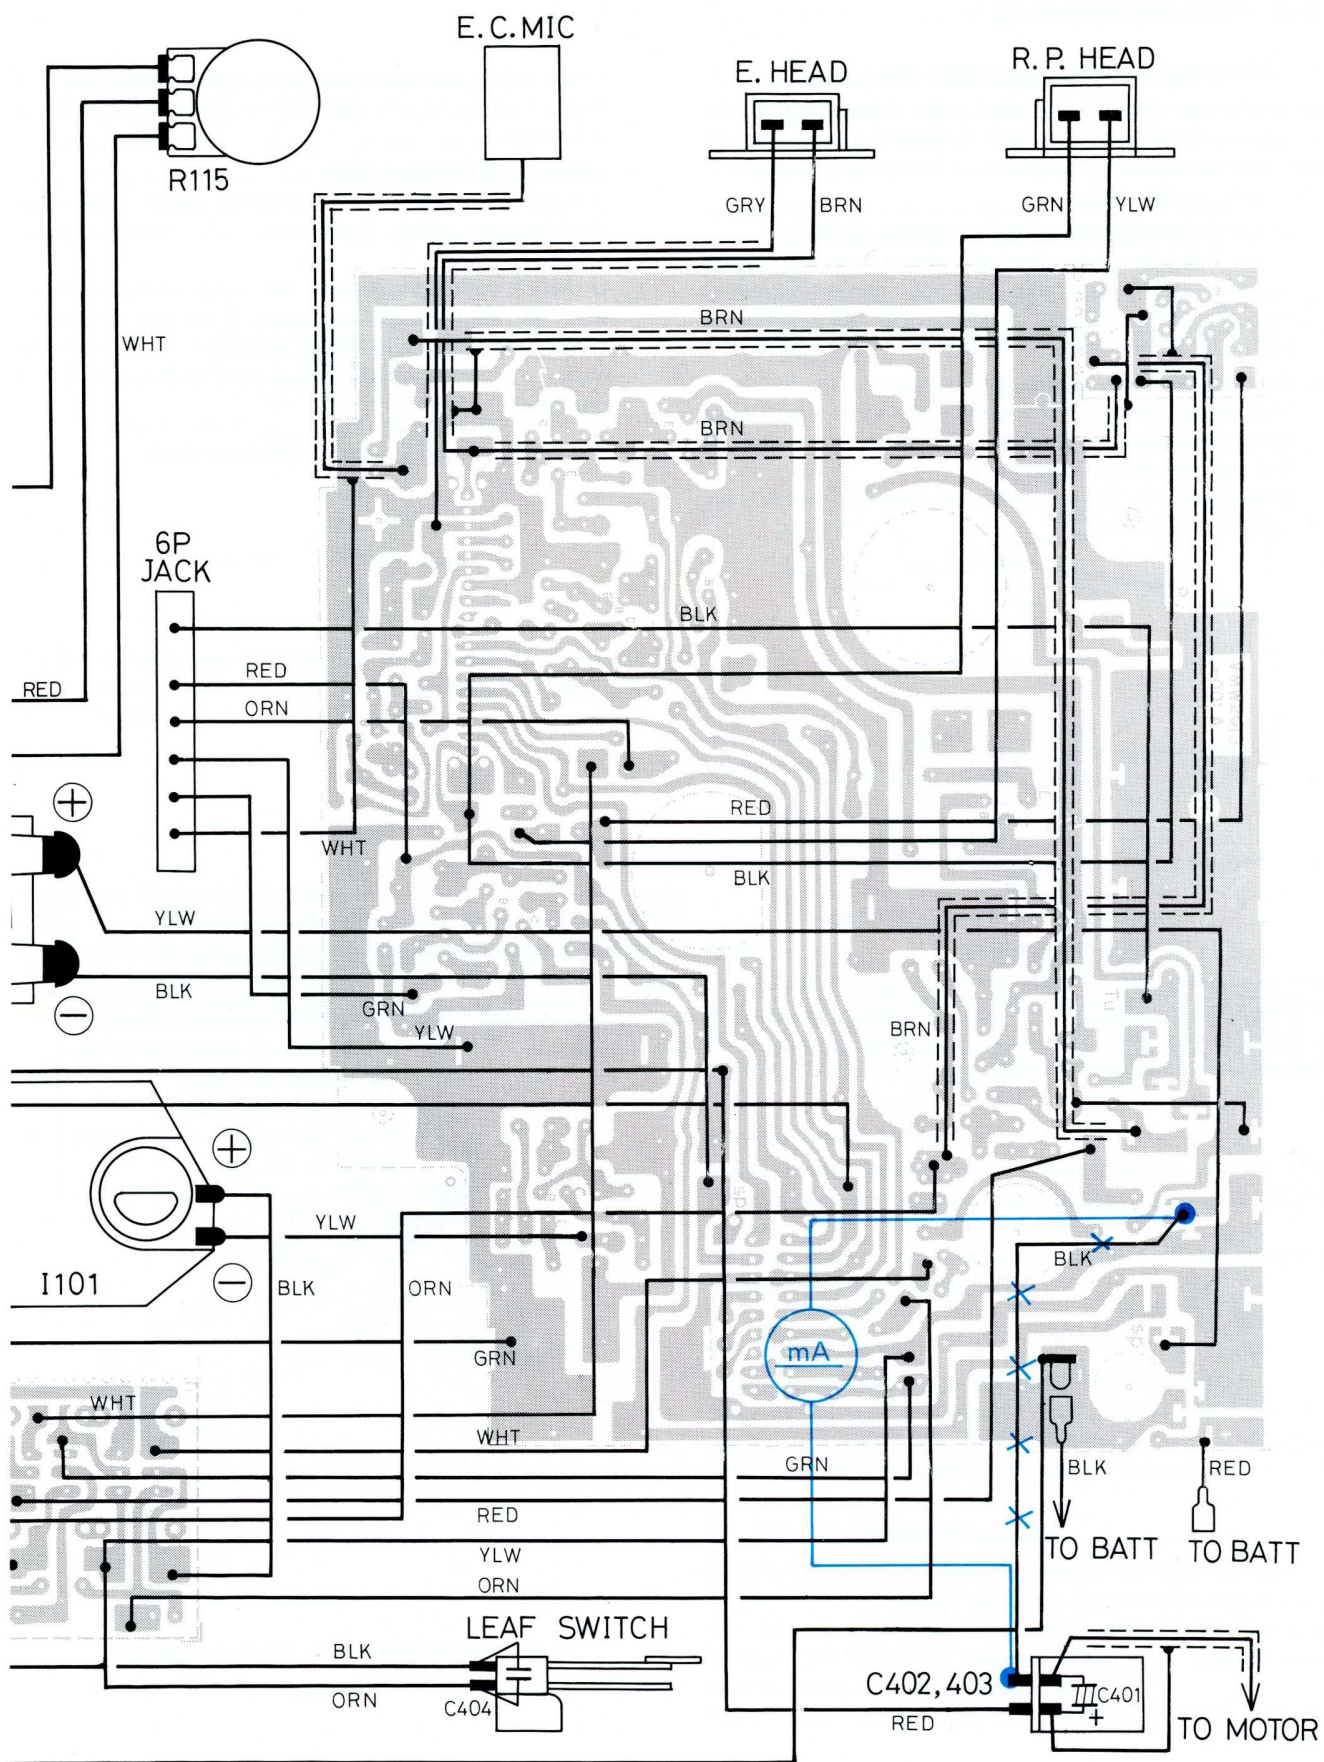

Fig. 39
- Disconnect the leads from the motor and connect an ammeter as shown in Fig. 39. Set the ammeter to a range of DC 250mA and measure the current. (Fig. 39)